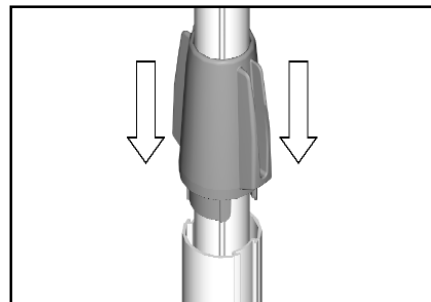

Figure 16
11. Remove the level from the post by sliding it up off the bottom portion of the post. Slide the blue locking handle down to fit into the bottom part of the post to lock the post in place (Figure 16).